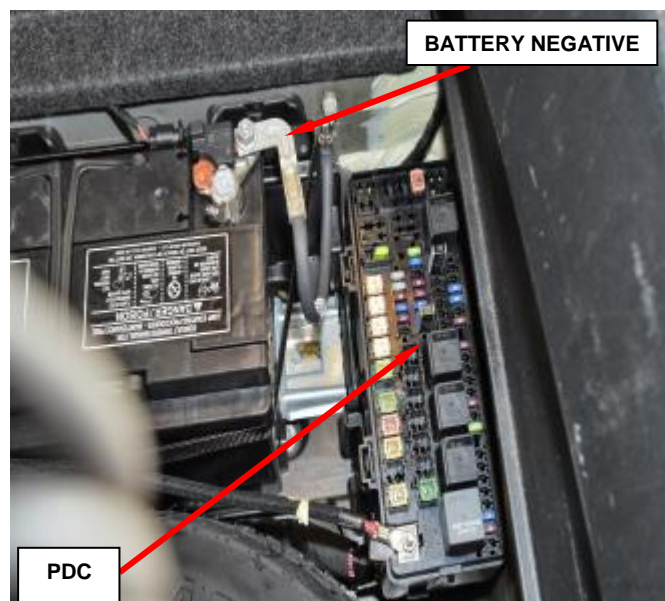

Figure 18 – Battery Negative
1. Disconnect and isolate the battery negative cable then remove the two Airbag Module fuses from the Power Distribution Center (PDC), see the PDC cover for the fuse locations. Wait two minutes for the system capacitor to discharge before further service (Figure 18).